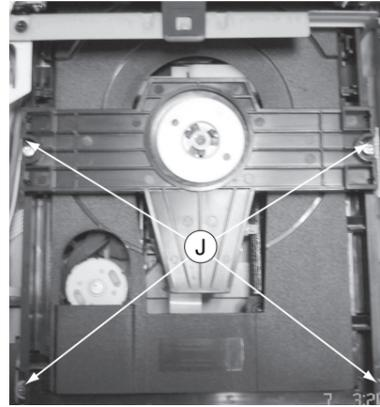

Figure 14
- 1) Loosen 4 screws "J" at the DVD module as shown in figure 14.